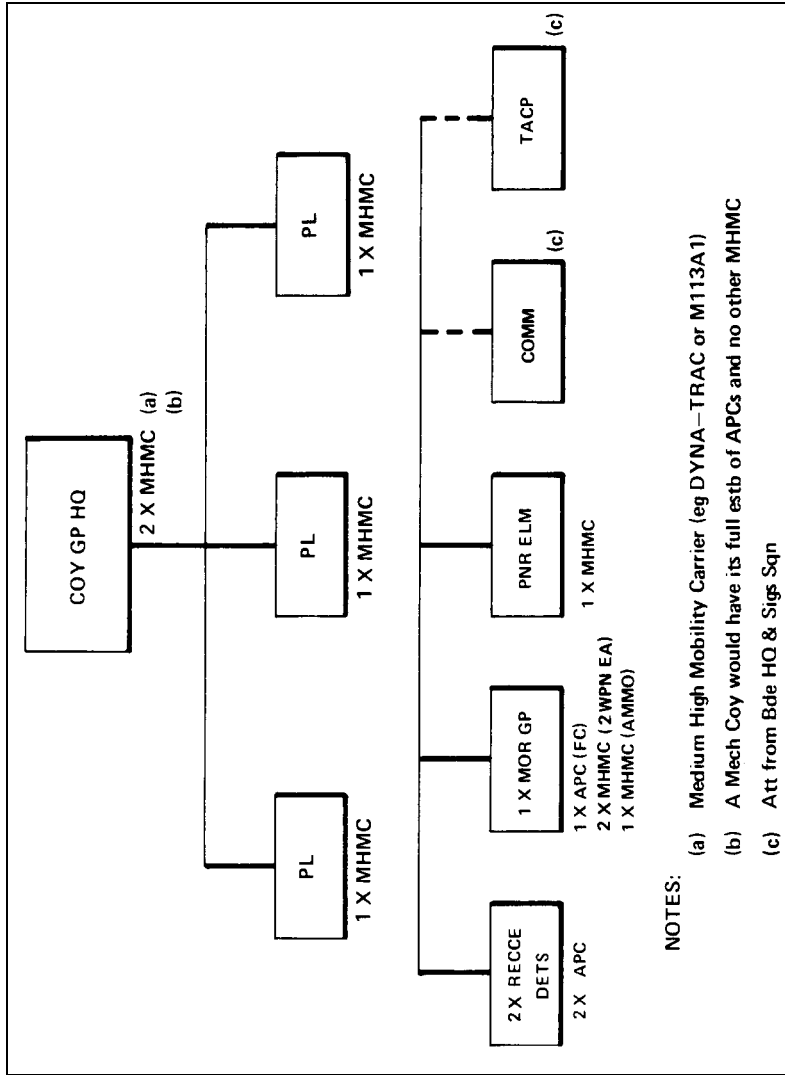

Figure 1-6 Company Group for Northern Operations
36. Very minor incursions may be dealt with using a small force based on a rifle company. Possible composition of such a force for operations anywhere in the north is at Figure 1-6.